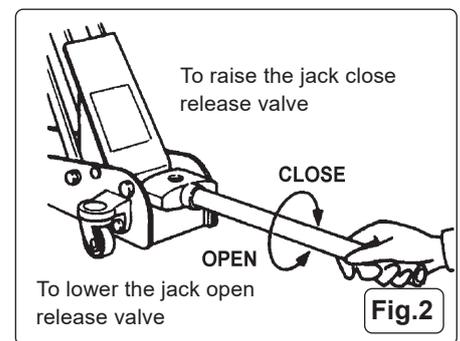

Fig.2
- 6.2.4. Turn the release valve clockwise, to the closed position (Fig.2).